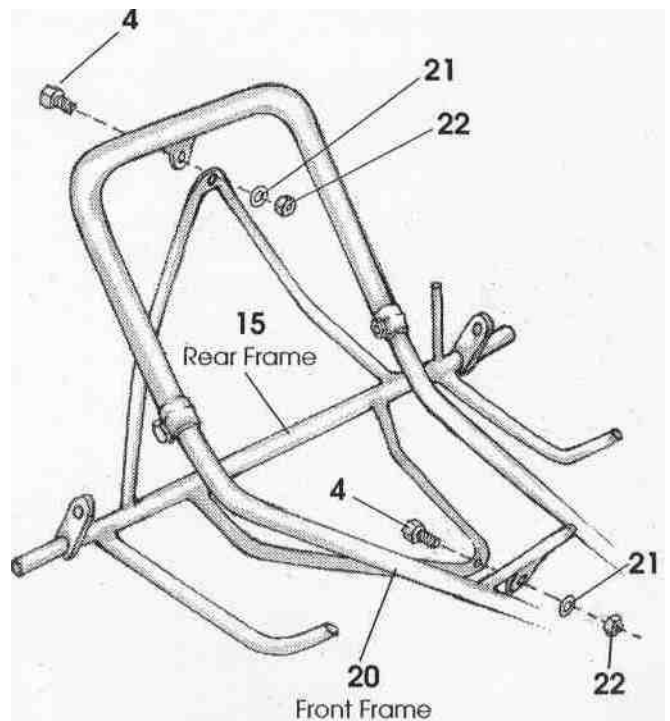

Fig. 2
Assemble front (20) and rear frame (15) sections together (see figure 2). Insert screws (4) into nylon bushings that are preassembled into frame sections. Secure with washers (21) and nuts (22). Tighten nuts so that the frame sections are securely held together, but not so much to cause binding when pivoted. Tighten backrest clamps and refer to schematics for correct placement.